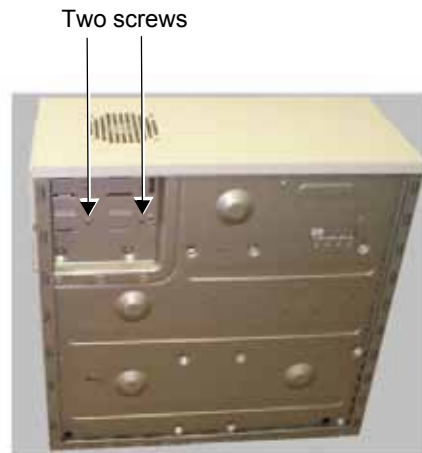

Figure 8-72 ECG Module Removal- BEP2
- 8) Remove the four screws that secure the ECG Module in position (two from each side of the exposed BEP as shown in Figure 8-72 on page 8-86).
- 2) Secure the ECG Module with four screws, two from each side of the BEP (see Figure 8-72, above).